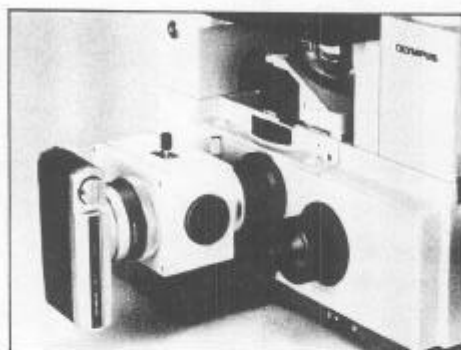

Fig. 40
2) Mount the photomicrographic attachment as indicated in Fig. 40. If the unit is tilted, the image will be also tilted against the focusing reticle in the microscope. To avoid tilting, make it a point to visually parallelize the horizontal contour of the attachment to the horizontal line of the microscope.